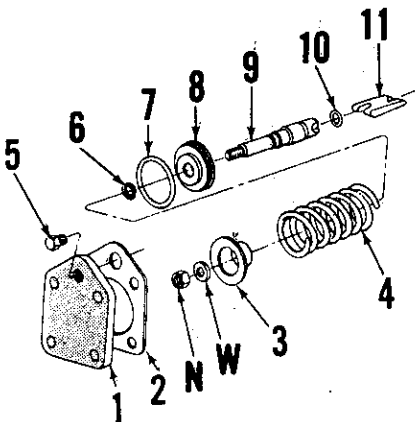

Fig. 260—Exploded view of Servo 1 assembly.
The servo sealing "O" rings (7 and 10—Fig. 260) can now be renewed and the servo assembly reinstalled. However, if inspection of unit reveals excessive wear or other defect, proceed as follows to disassemble and overhaul the servo:
259. To disassemble the servo, place the assembly in a press using sleeve and step plate as shown in Fig. 261. Compress the servo spring and remove the nut (N—Fig. 260) and washer (W) from piston rod (9). Slowly release spring tension, remove unit from press and remove the retainer (3) and spring (4). Remove piston retaining snap ring (6), then push or press piston rod from piston. To reassemble, reverse disassembly procedure. When reinstalling piston, be sure sharp edge of snap ring